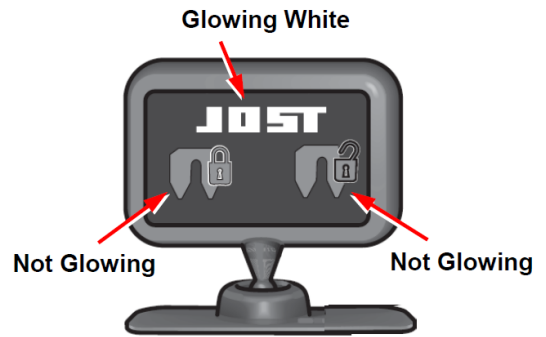

FIGURE 3
- C. The dash display JOST logo glows white (see figure 3).